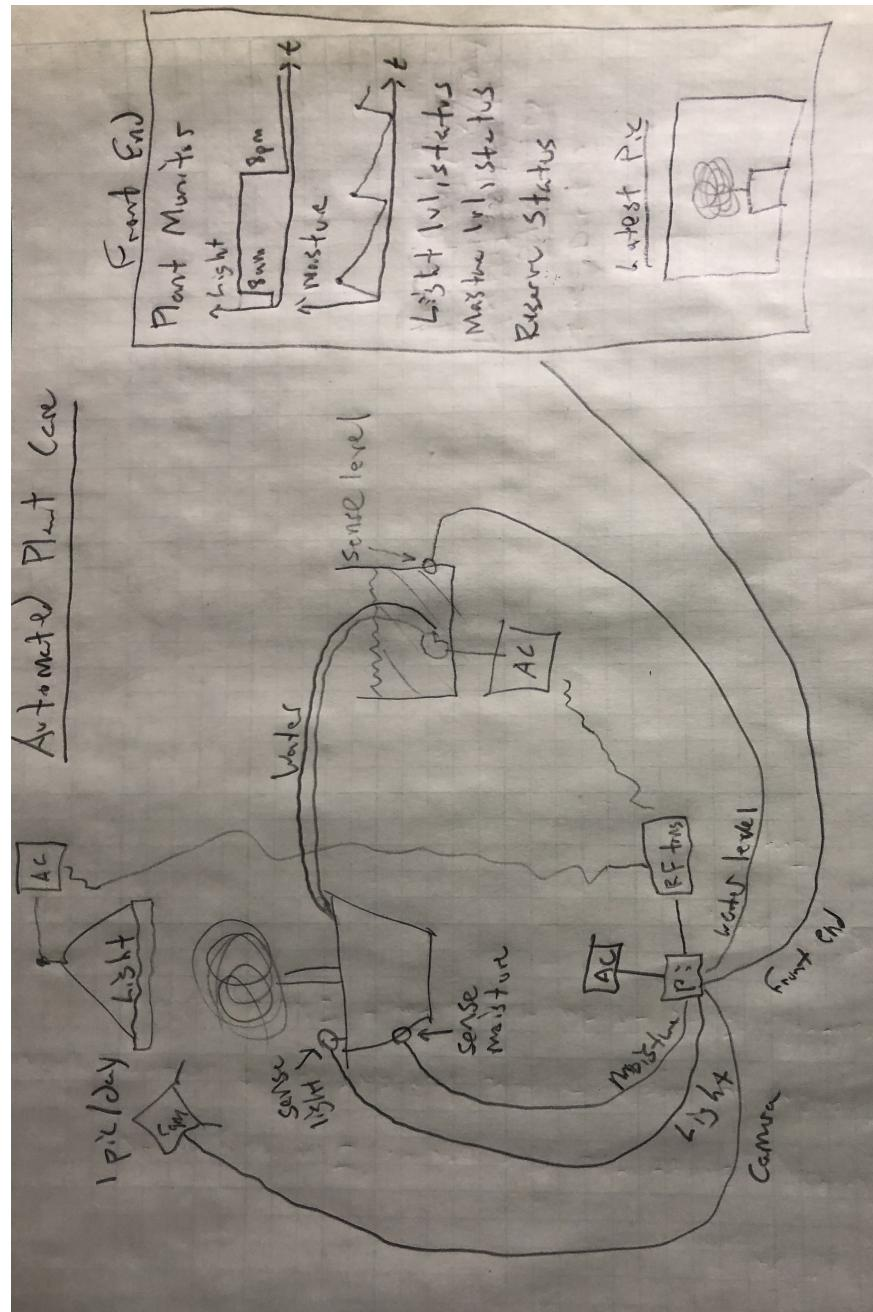

Figure 5: Schematic of plant automation system.
The two fundamental pieces of equipment are the light and the pump, and what they both have in common is that they run on AC power. Obviously, the controller for all of this – a Raspberry Pi – is only equipped to handle DC circuits at either 3.3 or 5 volts. While it's possible to do something with relays, nobody wants to explain their neat project to an angry fire marshal. Thus, for safety reasons, it has been elected to use a radio frequency (RF) transmitter paired with RF outlet switches to enable switching of the pump and light. This has an added benefit of greater freedom for routing power. The remainder of equipment to be used is given in the table below, and Fig. 5 provides a schematic.